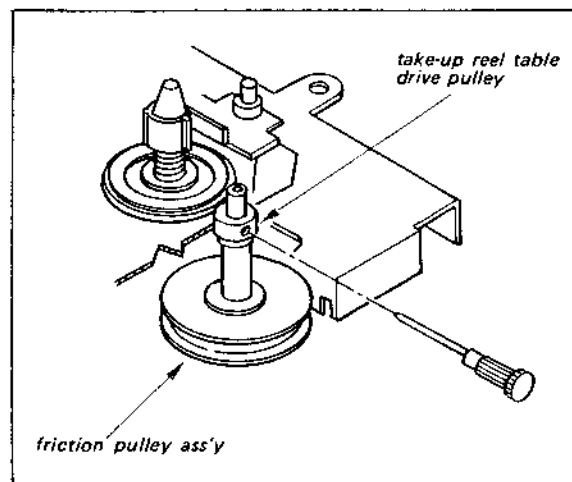

Fig. 3-10 Friction pulley removal
2. Remove the take-up reel table drive pulley by loosening the set screw as shown in Fig. 3-10.